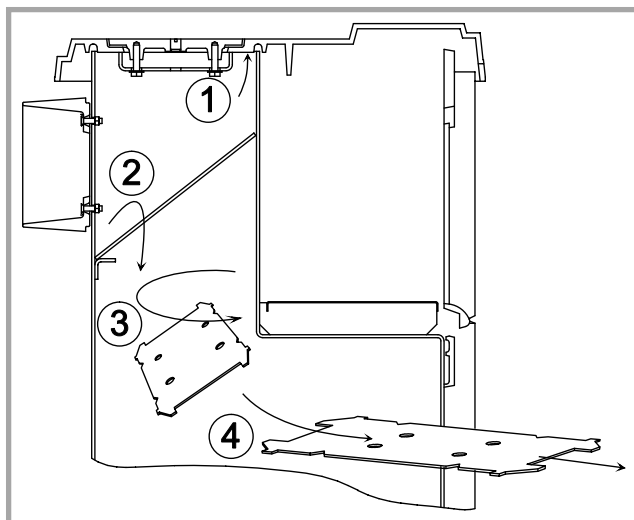

Figure 14 - Removing the flue baffle
- Remove the internal baffle (fig. 14, p. 8).